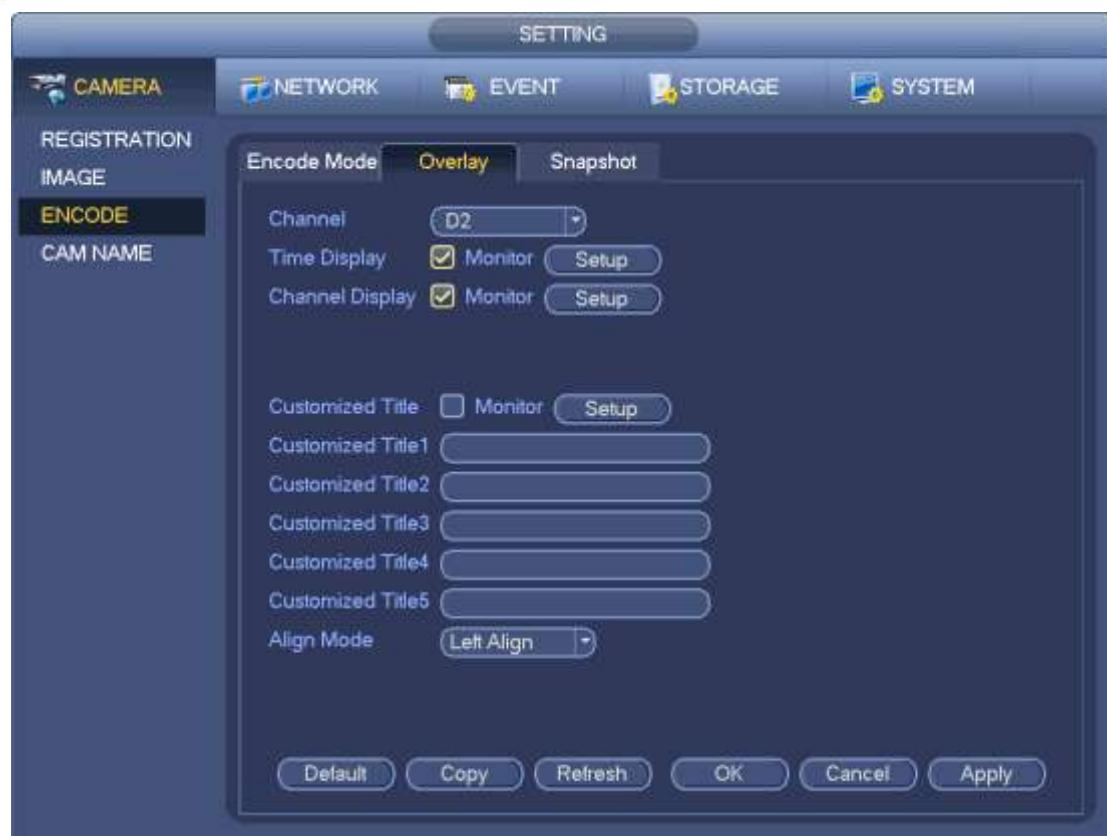

Figure 4-53
- Copy: After you complete the setup, you can click Copy button to copy current setup to other channel(s). You can see an interface is shown as in Figure 4-55. You can see current channel number is grey. Please check the number to select the channel or you can check the box ALL. Please click the OK button in Figure 4-55 and Figure 4-53 respectively to complete the setup. Please note, once you check the All box, you set same encode setup for all channels. Audio/video enable box, overlay button and the copy button is shield.
Click overlay button, you can see an interface is shown in Figure 4-53.